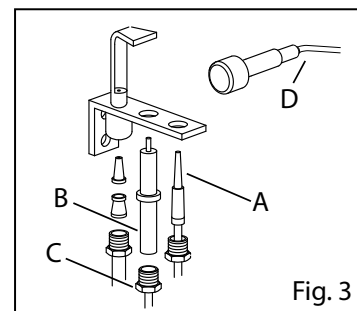

Fig. 3
- Unscrew the thermocouple from the pilot (Fig. 3/A)
- Disconnect the high voltage cable from the plug (Fig. 3/B)
- Unscrew the nut (Fig. 3/C)
- Connect the high voltage cable (Fig. 3/B)
- Disconnect the cable from the piezoelectric igniter (Fig. 3/D)